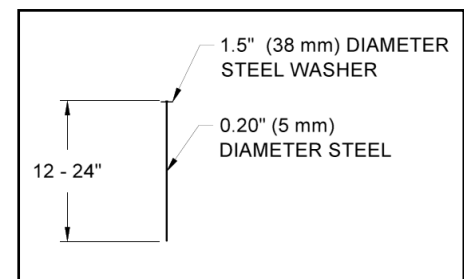

Figure 4: Securing Pin
- Secure LANDLOK with pins in the COS trench. Pins should be made of steel with a 0.20 in (5 mm) minimum diameter, having a 1.5 in (38mm) diameter washer at the head, and a length between 12 and 24 in (300-600 mm) with sufficient ground penetration to resist pullout (Figure 4). Longer pins may be required for looser soils. Heavier metal stakes may be required in rocky soils. Suggested placement of pins for the COS trench is along the bottom of the trench with pins on 12 in (300 mm) centers. Pins should also be installed on panel edge overlaps in the COS trench.